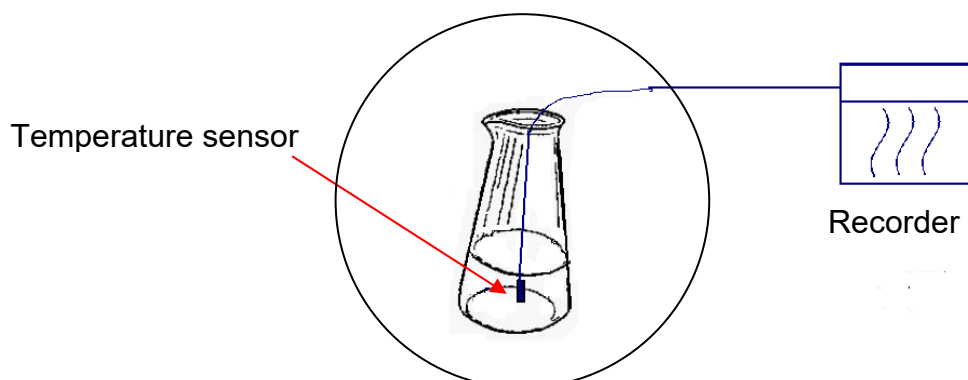

Figure 64
M. An additional temperature sensor and recorder are required for liquid sterilization program as shown in Figure 64.